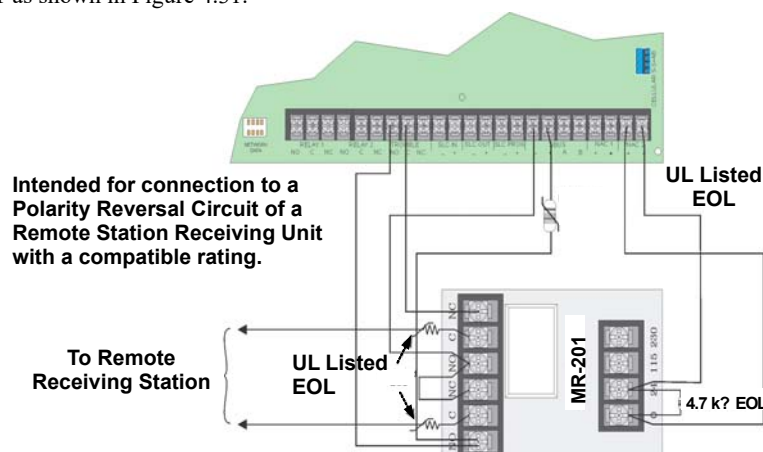

Figure 4.31 Polarity Reversal Connection Using the MR-201/T Relay
1. Wire the MR-201/T as shown in Figure 4.31.